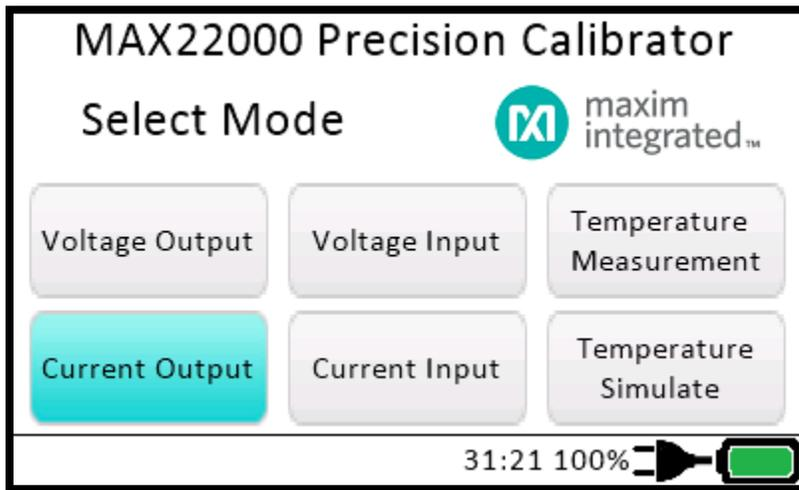

Figure 9. MAXREFDES183# Current Output mode.
11. To source current, click on the **Current Output** button (**Figure 9**).